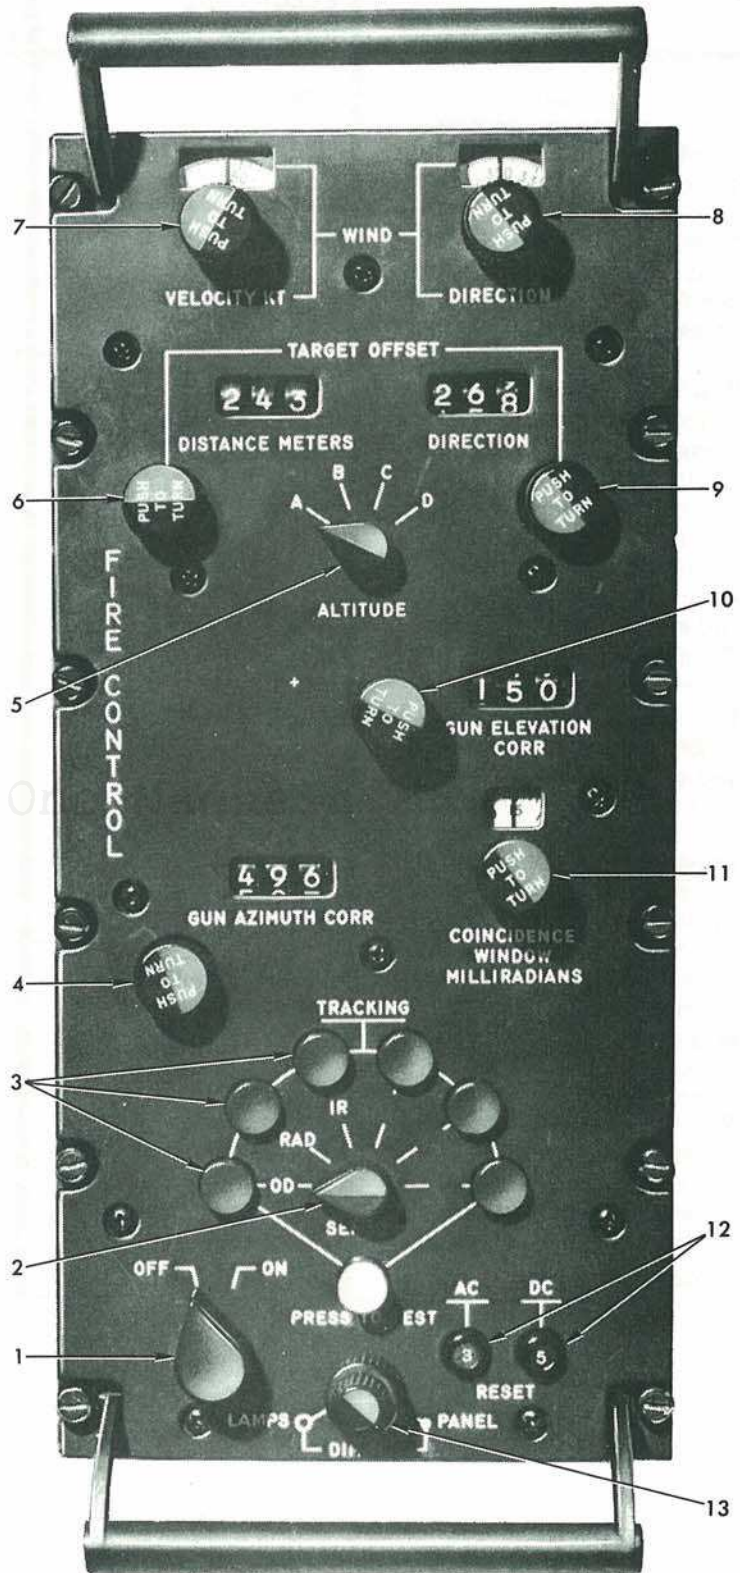

Figure 4-22
The fire control computer (figure 4-22) receives information from the NOS, three-axis gyro, and manual inputs and computes the fire control problem and feeds error signals to other equipment for the purpose of accurately controlling armament fire on a designated target. The fire control computer controls gun firing in two of the three modes of the fire control system. In the automatic mode, the computer will allow firing the guns only when the movable reticle and the fixed reticle in the gunsight indicate the computed aiming point and the actual aiming point are within a set coincidence window and consent is given. The size of the coincidence window is manually set. In the semiautomatic mode, the computer will provide the same information to the gunsight that it does in the automatic mode. However, reticle coincidence is not required to fire the guns.
The controls and indicators are shown in figure 4-22.
**TURN-ON AND OPERATING PROCEDURE.** (See figure 4-22.)